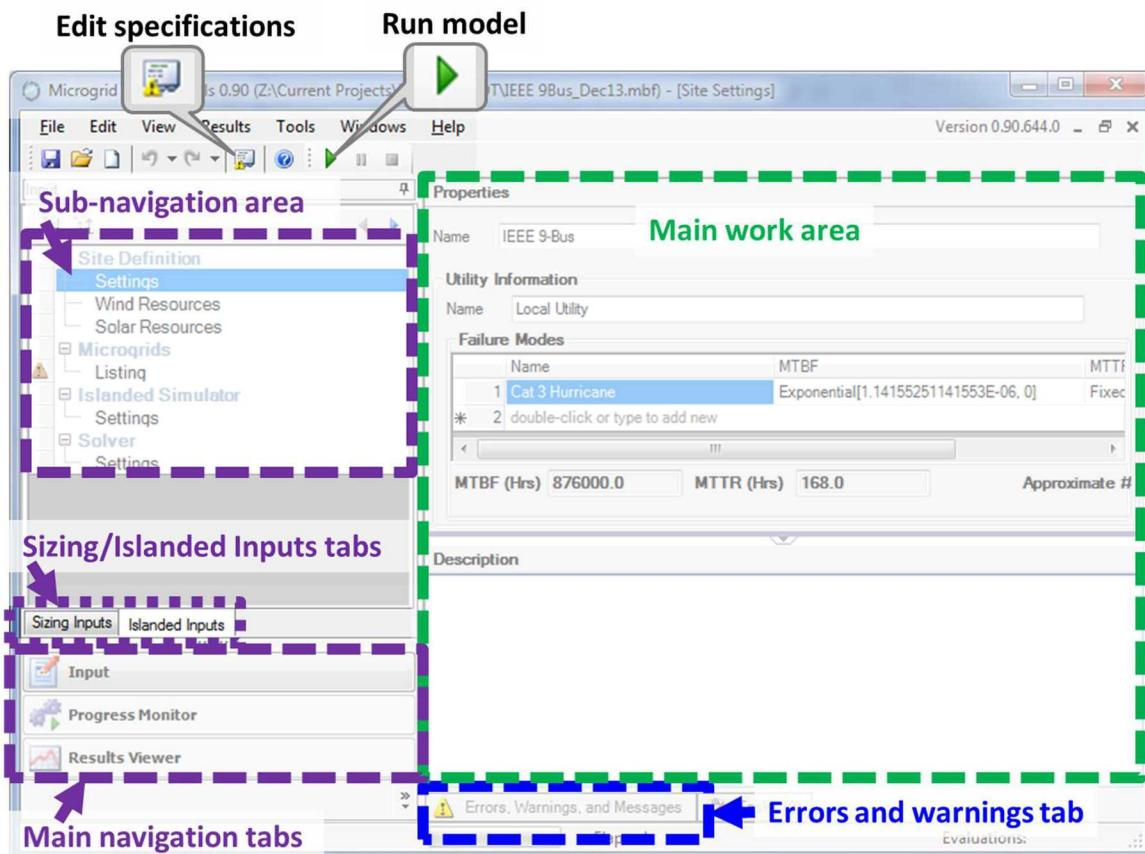

Figure 61. MDT main screen overview.
There are three main areas of MDT. They are accessed via tabs at the bottom left corner of the screen (*Main navigation tabs* in Figure 61).
Pages within each section are accessed via links in the upper left corner of the screen (*Sub-navigation area* in Figure 61). When the Input tab (under *Main navigation tabs* in Figure 61) is selected, the user can choose whether to display Sizing Inputs or Islanded Inputs (using the tabs just above the main navigation tabs) depending on the analysis being performed. Islanded Inputs is the default mode.
- The **page navigation** area is located on the left side of the page (highlighted in purple in Figure 61).
- The **main work area** (highlighted in green in Figure 61) takes up the majority of the screen. This is where elements are added and modified.
**Errors**  and **warnings**  for all pages are accessible through the “Errors, Warnings, and Messages” tab at the bottom of the screen (highlighted in blue in Figure 61). Errors and warnings are also displayed on the element pages next to the elements with problems.